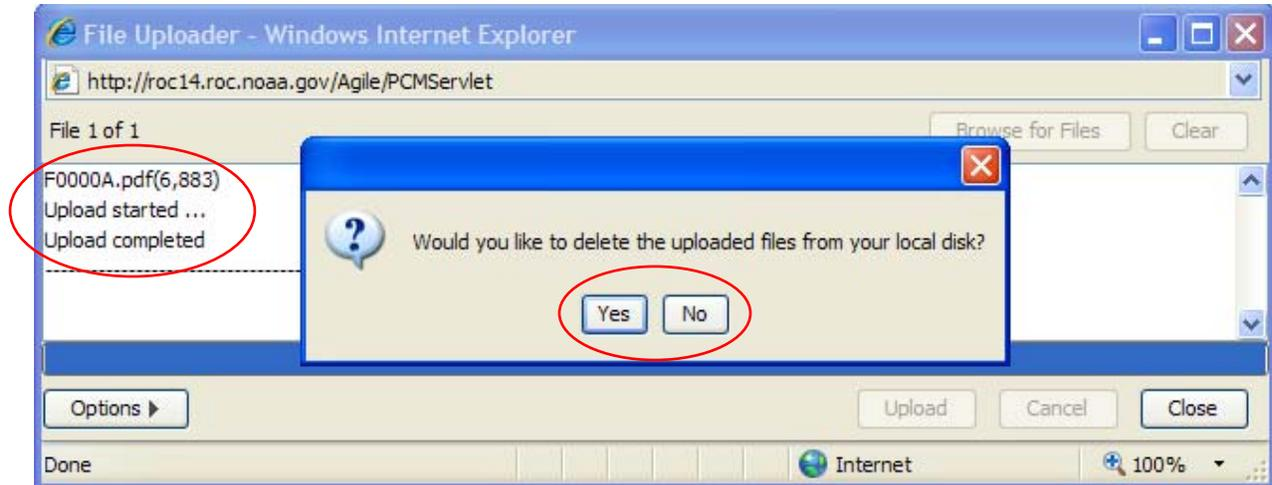

Figure 46: File upload complete and prompt to delete file from local computer.
- n. The File Uploader window will display the start and completion of the upload (Figure 46). Then a prompt asking to delete the uploaded file will appear. Click **Yes** to delete the file from the local computer; click **No** to retain the file.